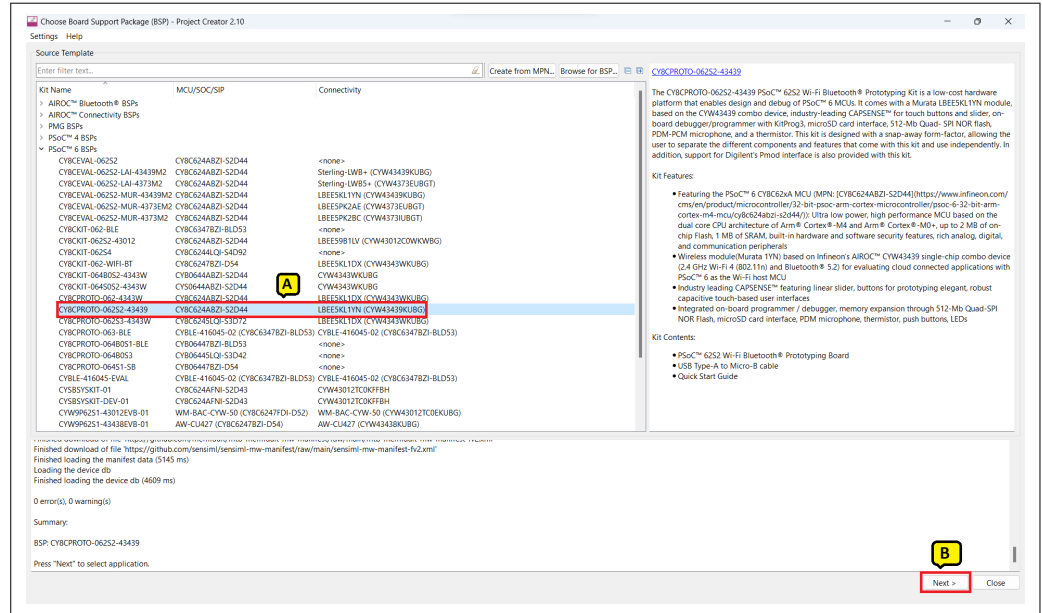

Figure 7 Choose target hardware
- a. In the **Choose Board Support Package (BSP)** dialog, choose the **Kit Name** that you have. The steps that follow use **CY8CPROTO-062S2-43439**. See Figure 7 for help with this step